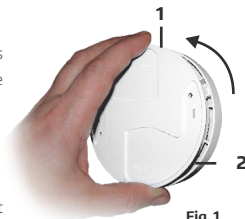

Fig. 1
- 1) Separate mounting frame (fig. 1 pos. 1) from the device body (fig. 1 pos. 2), rotating it counter-clockwise.